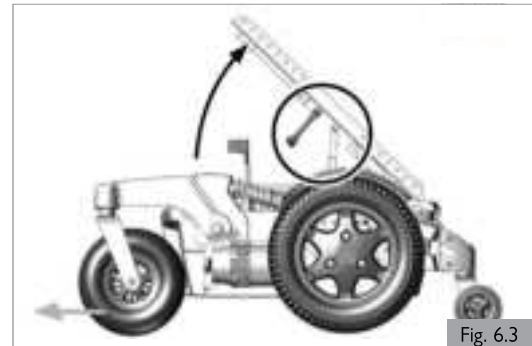

Fig. 6.3
2. Carefully flip the seat frame backwards (Fig 6.3).
3. Ensure the seat is secured with the seat stay in place, before letting go (Fig. 6.3).